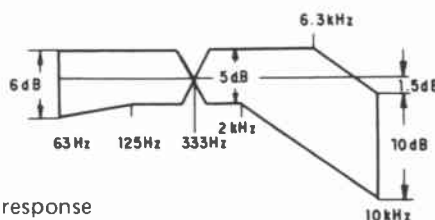

Fig. 29 Frequency response
4. Then record a 6.3kHz signal on the same tape (STD-601), and adjust VR801 and VR802 for a playback level deviation of +0.5dB, relative to 333Hz of item 3 above.
5. Record and playback up to 12kHz and confirm that they are within the rating (Fig. 29).
11. Then set the DOLBY NR switch to the ON position, record and playback over the frequency range stipulated by the ratings, and verify that they are within the ranges shown in Fig. 29.